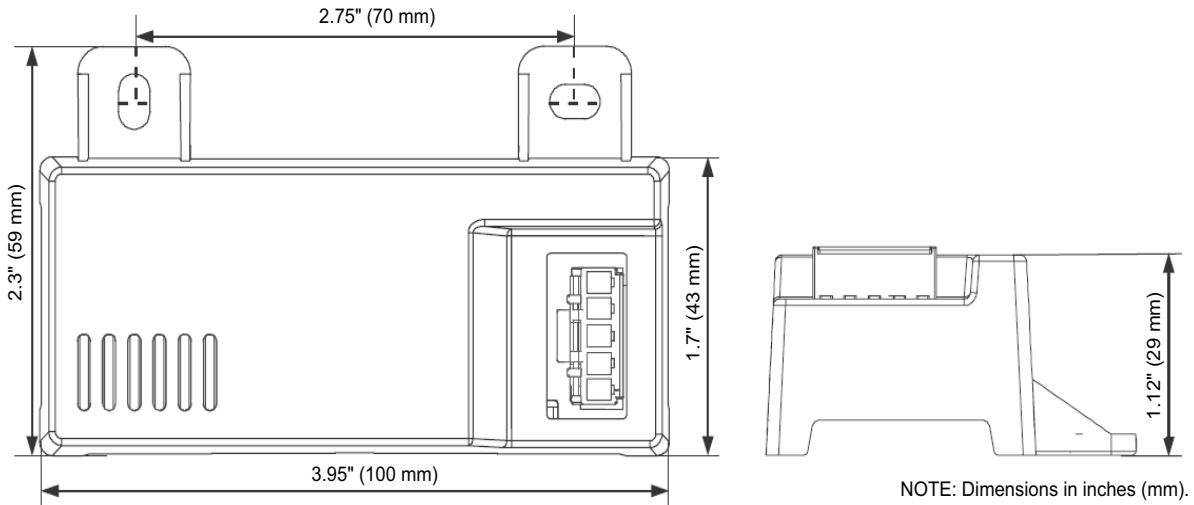
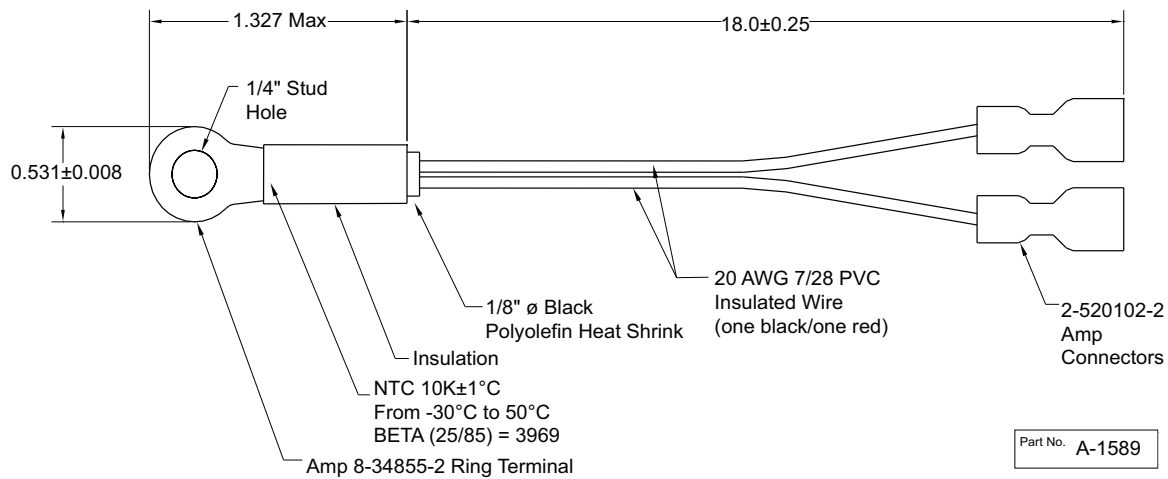
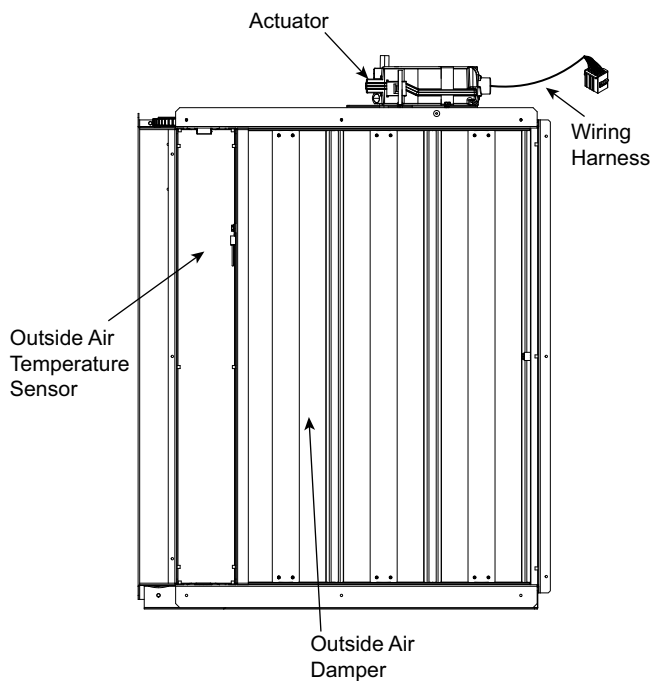

Fig. 81 — HH57LW001 Dimensional, Connection and Switching Information
Fig. 82 — HH79NZ039 Dry Bulb and Mixed Air Sensor Wiring
Fig. 83 — EconomizerONE Component Locations (CRECOMZR108A00 Shown)
When using the HH57LW001 enthalpy sensor (see Fig. 81) for outside air changeover, the existing HH79NZ039 dry bulb sensor (see Fig. 82) must be removed. The enthalpy sensor will be mounted in the same location as the dry bulb sensor (see Fig. 83). When the enthalpy sensor's OA (Outside Air) temperature, enthalpy, and dew point are below their respective setpoints, the outside air can be used for free cooling. When any of these are above the setpoint, free cooling will not be available. Enthalpy setpoints are configurable and create an enthalpy boundary according to the user's input. For additional details, see Fig. 84-85 and Table 35.
The optional enthalpy control sensor (P/N: HH57LW001) communicates with the POL224 economizer controller using the 5-wire harness, 48TC005213. The HH57LW001 sensor can be used as a single outside air enthalpy, a differential return enthalpy, or a differential return temperature sensor. Refer to the base unit control wiring diagrams found earlier in this book to wire the HH57LW001 enthalpy sensor for each option. Use Fig. 81 and Table 37 on page 66 to locate the wiring terminals for each enthalpy control sensor.
Economizers are shipped standard with an HH79NZ039 outside air dry bulb sensor (see Fig. 82). System default setting (high temp limit) is 63°F (17°C) and has a range of 48°F to 80°F (9°C to 27°C). Sensor is factory installed on economizer.
If installing the optional HH57LW001 enthalpy sensor, the HH79NZ039 dry bulb outside air sensor must first be removed. Wire sensor to harness 48TC005213 and the (5) wires from the harness to the EconomizerONE harness in the return air chamber. Harness 48TC005213 has a 5-pin plug that connects directly to the HH57LW001 enthalpy sensor. Refer to the base unit control wiring diagrams earlier in this book for wiring connections. Refer to Fig. 81 and Table 37.